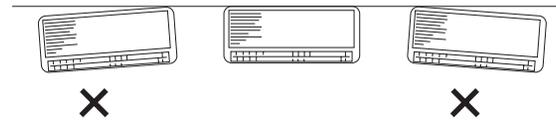

Fig. 3-35
- (2) Double-check with a ruler or carpenter's level that the panel is level. This is important to install the unit properly. (Fig. 3-35)
- (3) Make sure the panel is flush against the wall. Any space between the wall and unit will cause noise and vibration.